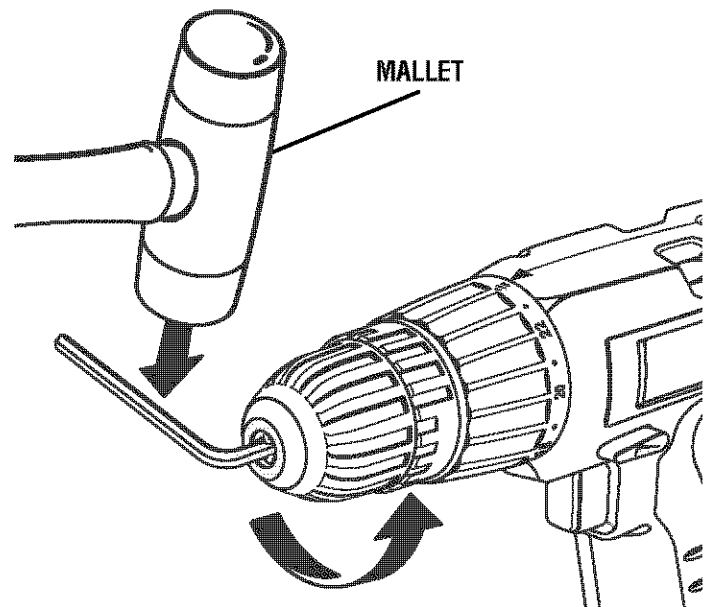

Fig. 13
- Insert hex key in chuck and tighten chuck jaws securely. Tap sharply with a mallet in a counterclockwise direction. This will loosen chuck on the spindle. It can now be unscrewed by hand. See Figure 13.